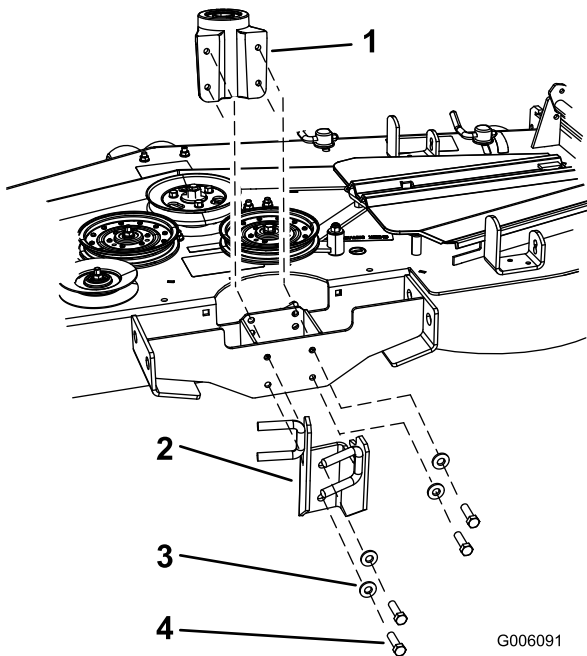

Figure 2
4. Remove the bearing housing from the mower deck (Figure 2).